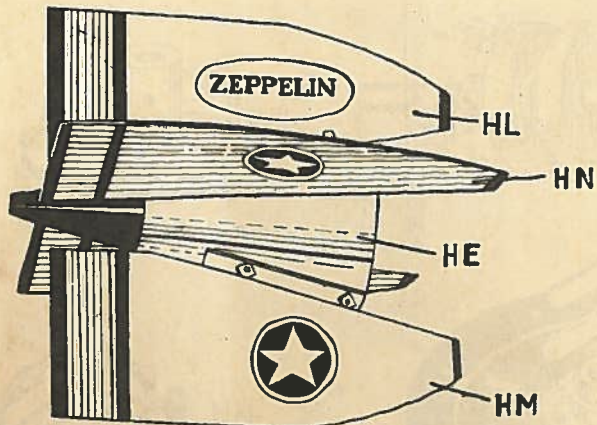

Fig. 5 Tail Assembly
**TAIL ASSEMBLY** Assemble as in Fig. 5, making sure the heads of the screws are on the inside of the cone. To put tail on, put a large knot in